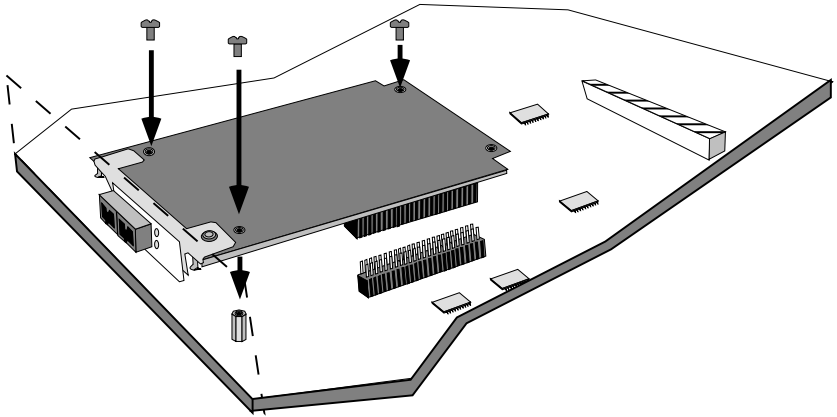

Figure 3-2. Installing an FEPIM
4. Install the FEPIM as shown in Figure 3-2. Ensure that the rear connector is seated firmly before tightening the three mounting screws.